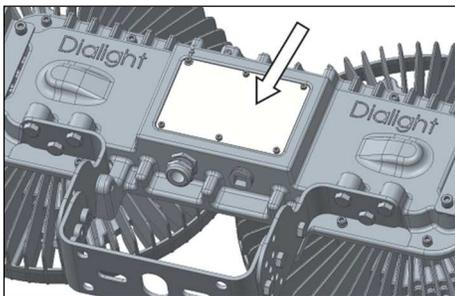

Fig.5
1. Once the light fixture has been mounted in place, remove access cover [Fig.5]
6. Replace access cover [Fig.5] recommended torque _ 10 in.lb [1.13 Nm]